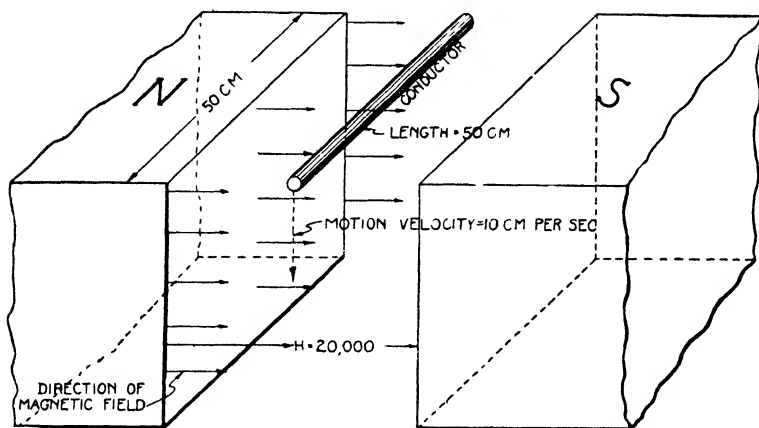

Fig. 1. Horizontal Conductor Moving Downward across a Uniform Magnetic Field—Motion Perpendicular to Field
uniform rate, that is, if the same number are cut in each succeeding fractional part of a second, say one hundredth part of a second, and there is a total of 100,000,000 lines cut in one second, then there will be an e.m.f. of one volt induced in the conductor. Thus if a horizontal conductor 50 inches long were moved downward across a horizontal magnetic field whose intensity is 20,000 lines of force as indicated in Fig. 1, at a uniform velocity of 10 inches each second, all the magnetic lines in the area  $10 \times 50$  inches would be cut in one second. Since there are 20,000 magnetic lines passing through each unit of area, then the total number of magnetic lines cut by the conductor in one second will be equal to  $10 \times 50 \times 20000$ , or 10,000,000. Dividing 10,000,000 by 100,000,000 gives 0.1 volt, the value of the e.m.f. induced in the conductor.
The motion of the conductor in Fig. 1 is perpendicular to the direction of the magnetic field, and, as a result, more magnetic lines are cut by the conductor when it moves a certain distance
**ANALYSIS OF OPERATION. Straight Conductor.** When the conductor, Fig. 1, has moved downward a sufficient distance to be out of the magnetic field, there will be no e.m.f. induced in it, as it continues to move on down, for there will be no magnetic lines of force cut by the conductor. Now, in order that the conductor may continue cutting the magnetic lines of force, it will be necessary for the motion of the conductor to be reversed when it reaches the edge of the magnetic field in its downward travel; that is, the motion of the conductor must be alternately up and down across the magnetic field. If the strength of the magnetic field is uniform in the region in which the conductor moves and the velocity of the